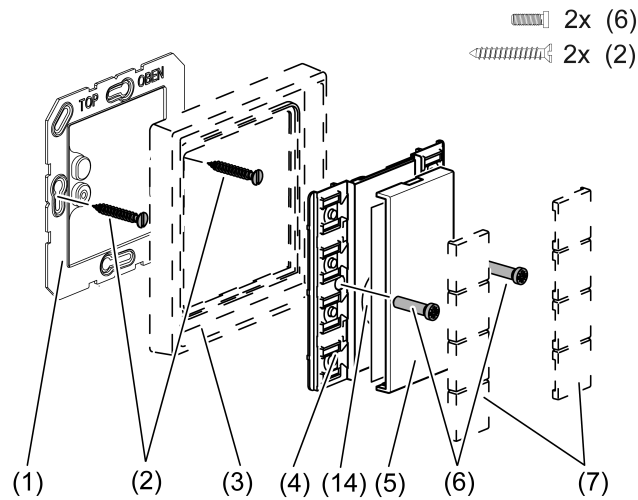

Figure 1: 4-gang radio wall transmitter module
- Carefully remove cover (5) from wall transmitter (Figure 1).
- Apply battery to the positive contact of the battery holder (14). Observe polarity: the positive pole of the battery must be at the top.
- Snap on the cover (5).